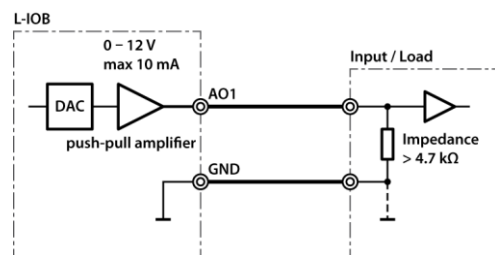

Figure 304: Analog outputs
Figure 304 shows the wiring of the analog outputs (AO). Observe that the analog outputs are labeled '0-10V OUT' but are in fact capable of delivering over 11V.